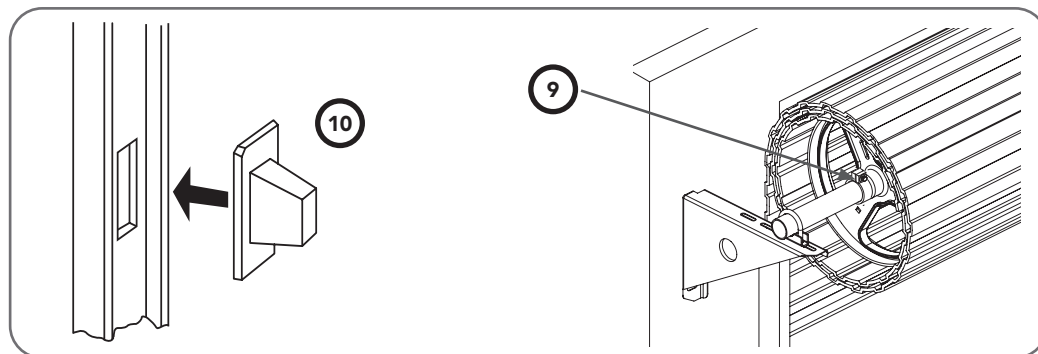

Fig. 6.1
- Install the locking bar covers (10) if there are locking bar holes in the guides. This ensures fingers cannot be placed in the holes while the door operates. (Fig 6.1)
- Install the collar kit (9) to the OPPOSITE end to where the opener is being installed.